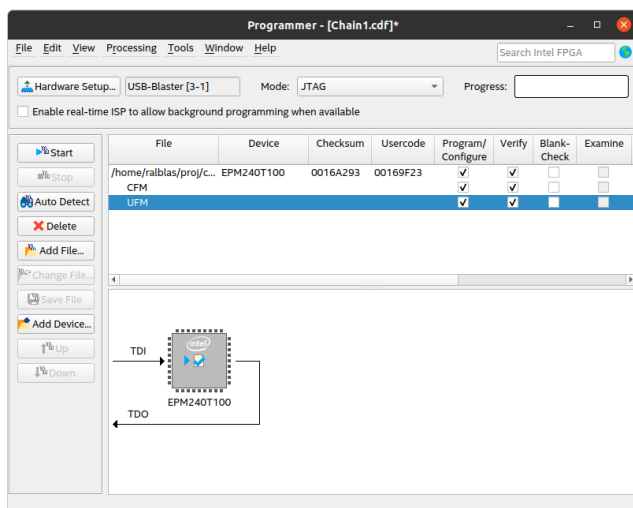

Fig. 3. Ready for programming.
- Do the same under 'Verify'. See fig. 3.